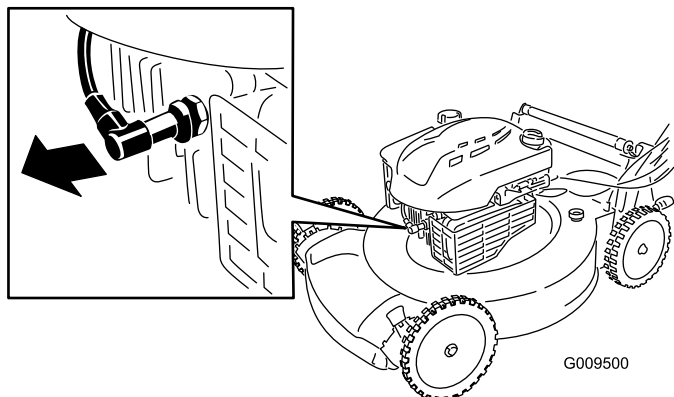

Figure 25
2. Disconnect the spark-plug wire from the spark plug (Figure 25) before performing any maintenance procedure.